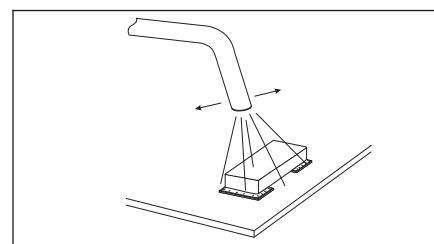

Figure 2 Melt Joints
6. Direct hot air over component with tip at a distance of 0.5 cm until complete solder melt is observed. (See Figure 2.)